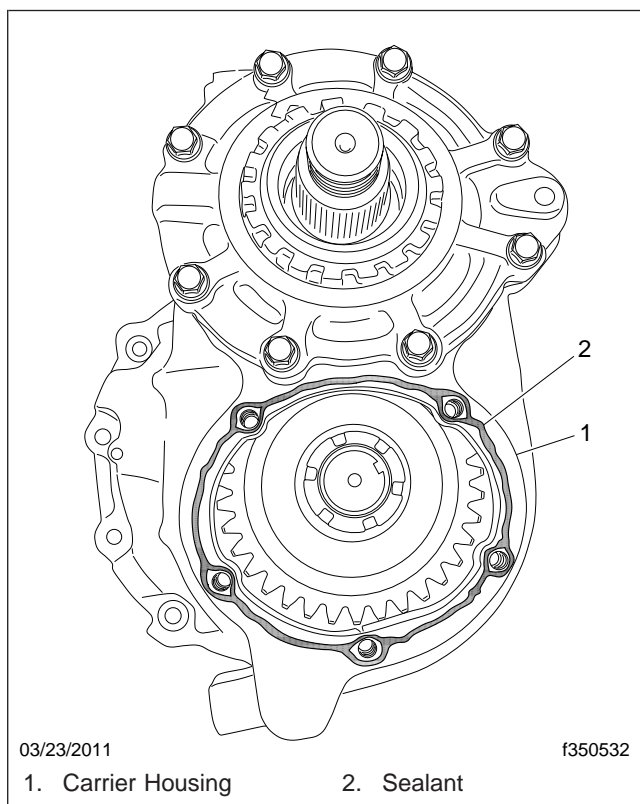

Fig. 1, Sealant Applied to Carrier Housing
2. Apply Loctite 5900® sealant to the bond surface of the *carrier housing* as shown in **Fig. 1**. Do not apply sealant to the cover.